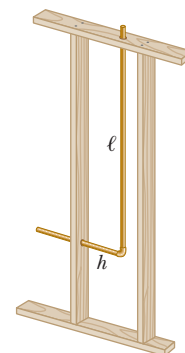

Figure P19.10
- Review.** Inside the wall of a house, an L-shaped section of hot-water pipe consists of three parts: a straight, horizontal piece  $h = 28.0\text{ cm}$  long; an elbow; and a straight, vertical piece  $\ell = 134\text{ cm}$  long (Fig. P19.10). A stud and a second-story floorboard hold the ends of this section of copper pipe stationary. Find the magnitude and direction of the displacement of the pipe elbow when the water flow is turned on, raising the temperature of the pipe from  $18.0^{\circ}\text{C}$  to  $46.5^{\circ}\text{C}$ .